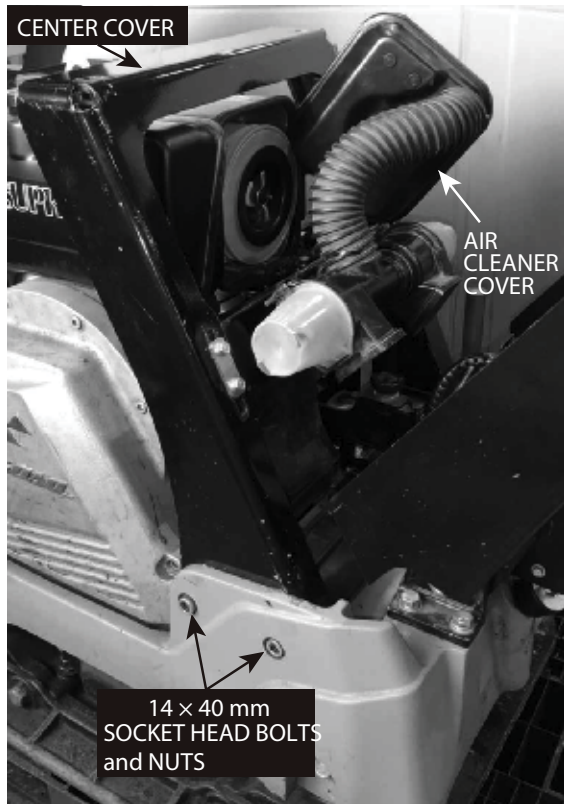

Figure 31. Center Cover Removal
- Remove and set aside the four 14 x 40 mm socket head bolts and nuts securing the center cover to the compactor. Remove the air cleaner cover. Then, remove the center cover together with air cleaner cover and set them aside. See Figure 31